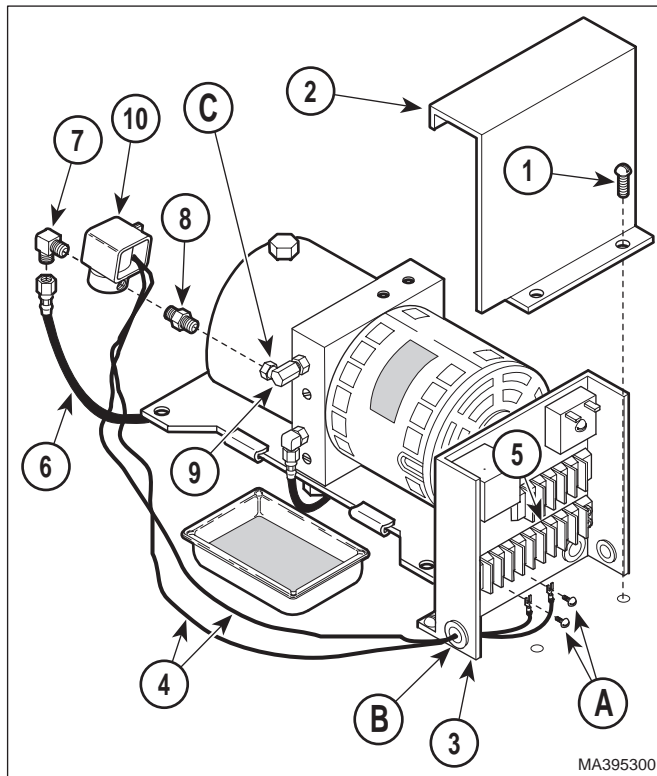

Figure 4-5. Anti-cavitation Solenoid Valve Removal / Installation
- (1) Unplug table power cord from outlet.
- (2) Remove motor cover assembly (Refer to para 4.2).
- (3) Remove two screws (1, Figure 4-5) and control cover (2) from control panel (3).
- (4) Loosen two terminal screws (A); then tag and disconnect anti-cavitation solenoid valve wires (4) from terminal block (5).